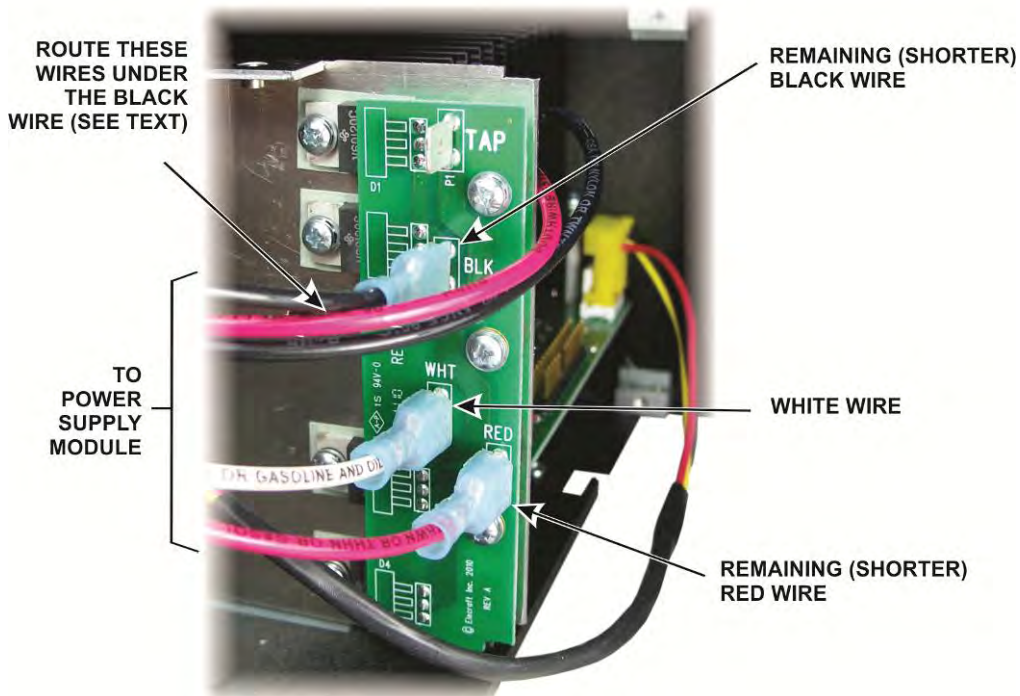

Figure 44. Wiring the Rectifier Board.
□ Connect the three remaining wires to the rectifier board mounted at the end of the Z-bracket as shown in Figure 44. Each spade connector is marked with the color of wire it receives. Route the black wire over the red and black wires passing around the end of the Z-bracket to keep them in place. They cannot be allowed to pass over the top of the Z-bracket or they will interfere with installing the top cover later.